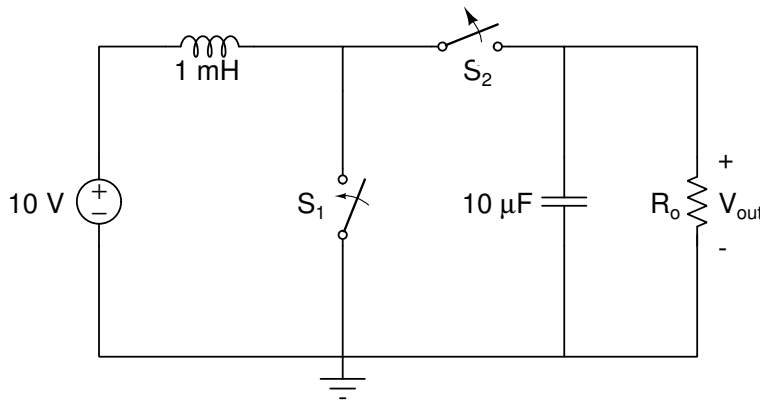

Figure 1: A boost converter circuit containing two synchronized switches.
**Introduction:** In Lab #7 you designed, simulated, built, and tested a boost converter based on the Villard voltage multiplier. In this lab, you will design, simulate, build, and test the boost converter based on the switched capacitor circuit shown in Figure 1.
Figure 2: Boost converter circuit implemented with an NMOS transistor driven with a function generator (FG) to represent the switch  $S_1$  and a diode to represent the switch  $S_2$  in Figure 1.